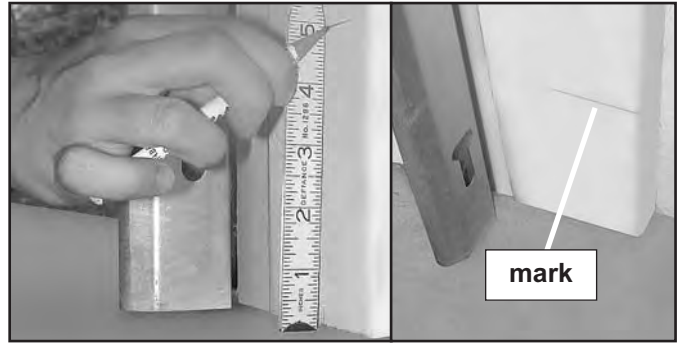

FIG. 4-1 Mark door frame.
- Mark both sides of garage door frame or wall at a height no higher than 6" and no lower than 5" above floor (Fig. 4-1).